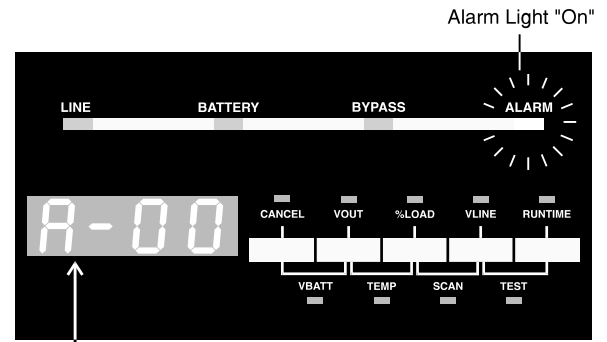

Figure 10
- shows an alarm code on the four-digit display (see Figure 10).